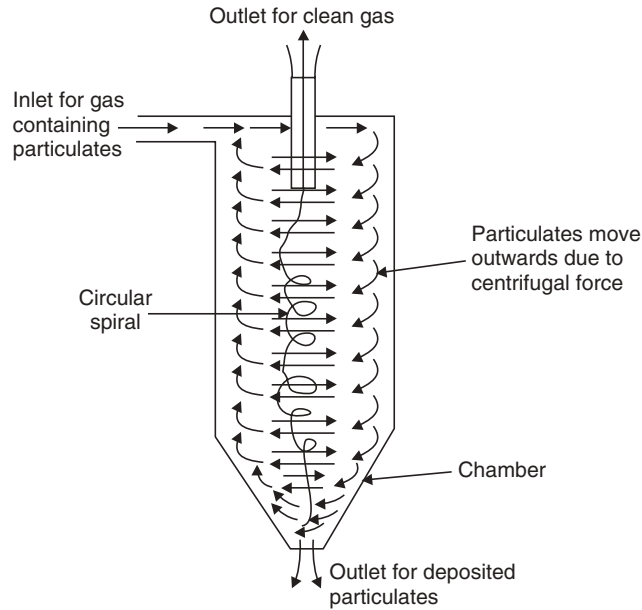

Fig. 27.2 A cyclone collector.
- (a) **Cyclone collector.** It is used for precleaning of air for removal of dry particulates of size ranging from 5–20  $\mu\text{m}$ . The air/gas is passed through a tight circular spiral-fitted chamber. The centrifugal forces throw the particulates towards the wall from where they settle down due to gravity. The collected particles are periodically removed. The action of cyclone separator is as shown in Fig. 27.2.